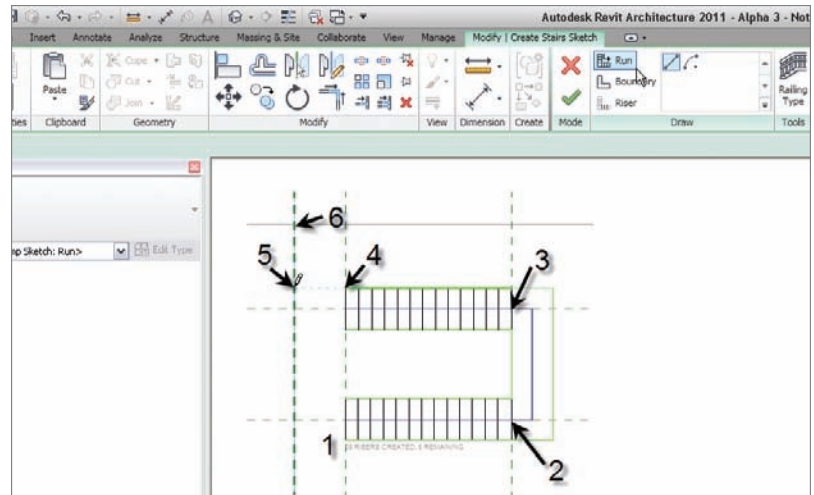

FIGURE 10.66 Picking the intersections of the reference planes to determine where the stairs will be going
4. Draw your stairs as shown in Figure 10.66. (Pick the points as the figure is sequenced.)